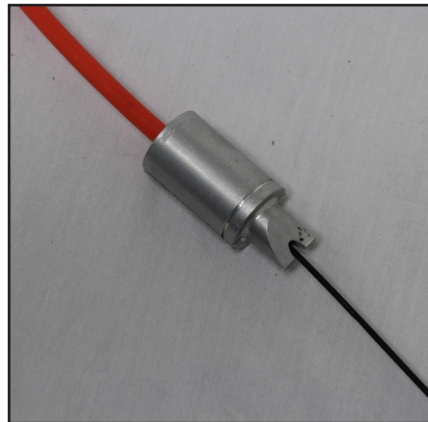

Figure 5. Install Top Half of Duct Pack and Press Together
- Once the micro duct is in place, secure the configuration by installing the top half of the duct pack and pressing firmly together. (See Figure 5)